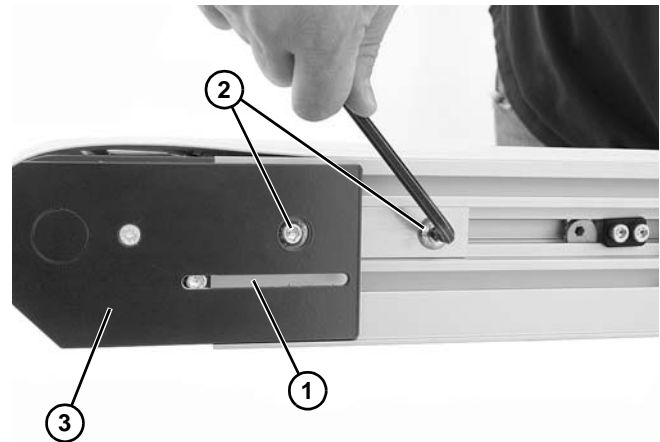

Figure 6
2. On tension end of the conveyor, identified by the pinion access slot (**Figure 6, item 1**): On both sides of the conveyor, loosen the two tail clamp bolts (**Figure 6, item 2**), and push head plate assembly (**Figure 6, item 3**) inward.